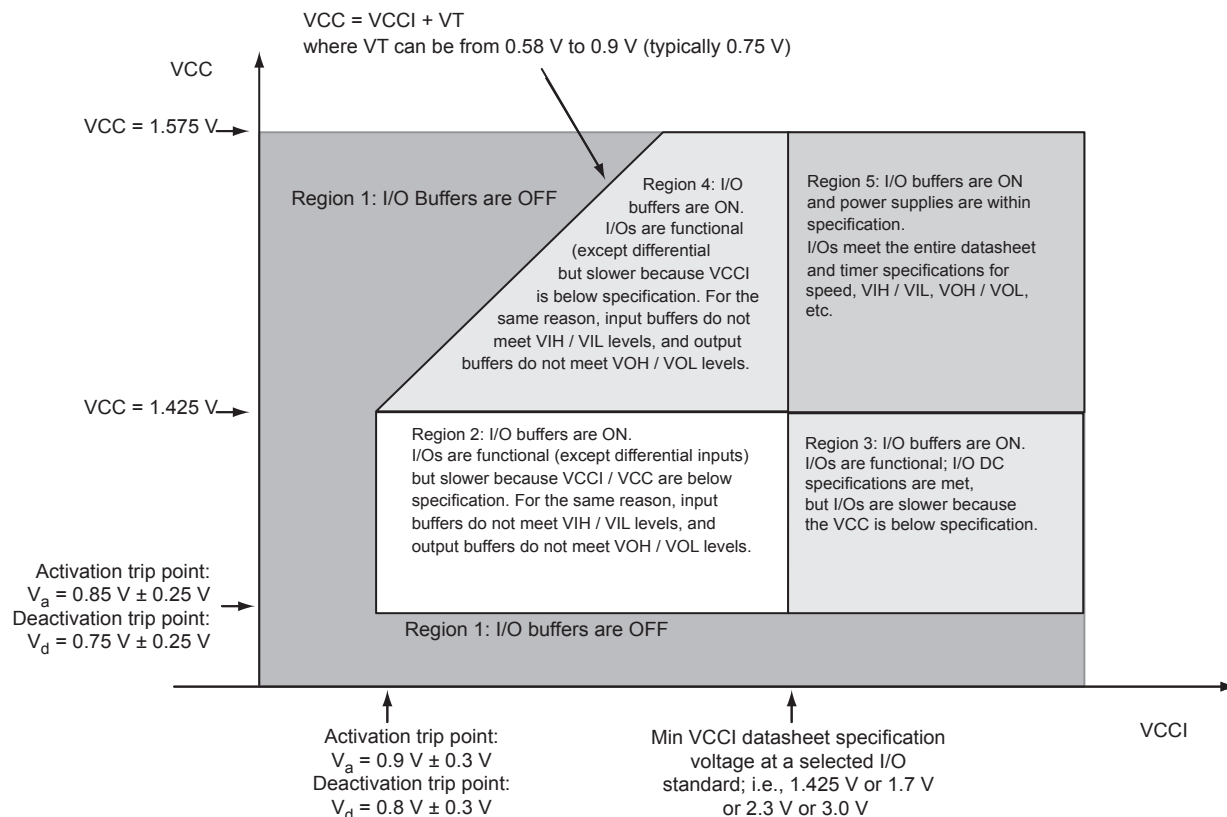

**Figure 2-2 • I/O State as a Function of VCCI and VCC Voltage Levels**
Sophisticated power-up management circuitry is designed into every ProASIC®3 device. These circuits ensure easy transition from the powered-off state to the powered-up state of the device. The many different supplies can power up in any sequence with minimized current spikes or surges. In addition, the I/O will be in a known state through the power-up sequence. The basic principle is shown in Figure 2-2 on page 2-4.
1. VCC and VCCI are above the minimum specified trip points (Figure 2-2 on page 2-4).